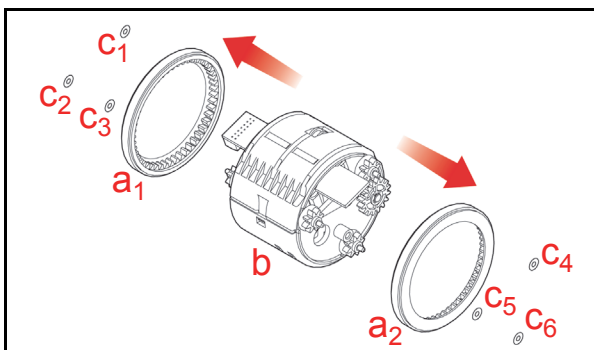

Figure 4-10 Dual Feed Roller Assembly Removal
5. Remove the Feed Roller Assembly (See Figure 4-10 a₁ & a₂) from both ends of the Center Drum Unit Assembly (See Figure 4-10 b).
6. Remove the three (3) Washers (See Figure 4-10 c₁ through c₆) from each end of the Center Drum Unit Assembly.